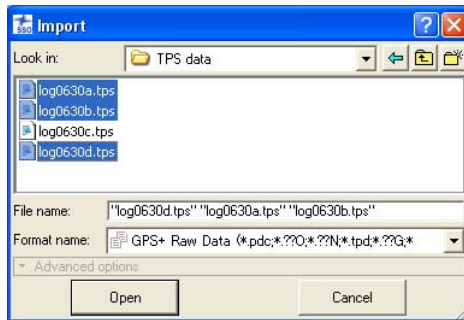

Figure 3-14. Import GPS Raw Data File
- TPD files are a Topcon proprietary format for storing GPS raw data, and can be used to backup raw data or exchange raw data between different jobs (Figure 3-14).